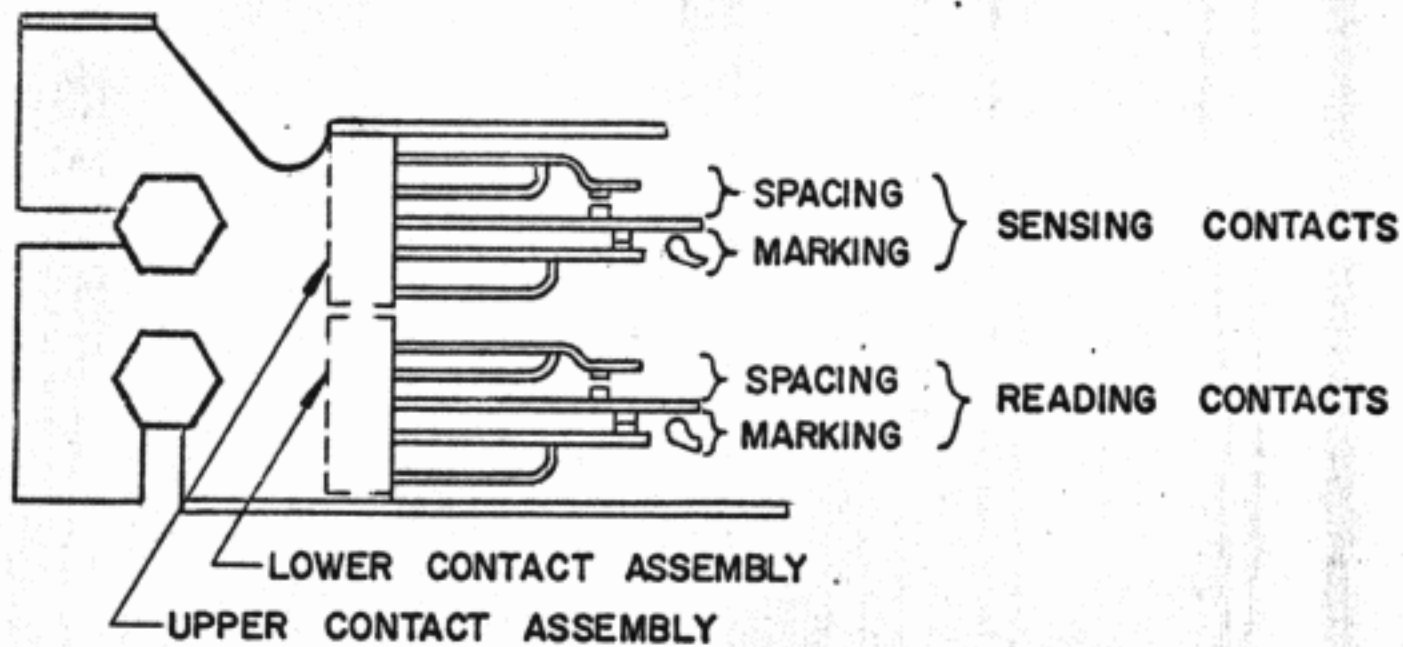

FIGURE 8
\* b. Transmitter Contacts (1) through (5) - See Figure 8
- (1) While the transmitter is sensing "letters", align the end of the distributor stop pulse segment with the 142 mark on the stop segment of the DXD scale.
\* c. Sensing Auxiliary Contacts (60 to 100 WPM) - See Figure 8